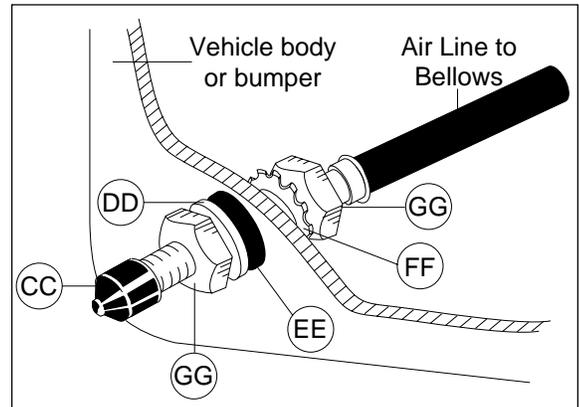

Figure 5
2. Cut the air line assembly (AA) in two equal lengths. *CAUTION: When cutting or trimming the air line, use a hose cutter (Air Lift P/N 10530), a razor blade or a sharp knife. A clean, square cut will ensure against leaks. Do not use wire cutters or scissors to cut the air line. These tools may flatten or crimp the air line, causing it to leak around the O-ring seal inside the elbow fitting.*
3. Place a 5/16" nut (GG) and a star washer (FF) on the air valve. Leave enough of the inflation valve in front of the nut to extend through the hole and have room for the rubber washer (EE), flat washer (DD), and 5/16" nut (GG) and cap (CC). There should be enough valve exposed after installation - approximately 1/2" - to easily apply a pressure gauge or an air chuck (Figure 5).
4. Push the inflation valve through the hole and use the rubber washer (EE), flat washer (DD), and another 5/16" nut (GG) to secure it in place. Tighten the nuts to secure the assembly in place (Figure 5).
5. Route the air line along the frame to the air fitting on the air spring. Keep at least 6" of clearance between the air line and heat sources, such as the exhaust pipes, muffler, or catalytic converter. Avoid sharp bends and edges. Use the plastic tie straps (BB) to secure the air line to fixed, non-moving points along the chassis. Be sure that the tie straps are tight, but do not pinch the air line. Leave at least 2" of slack to allow for any movement that might pull on the air line.